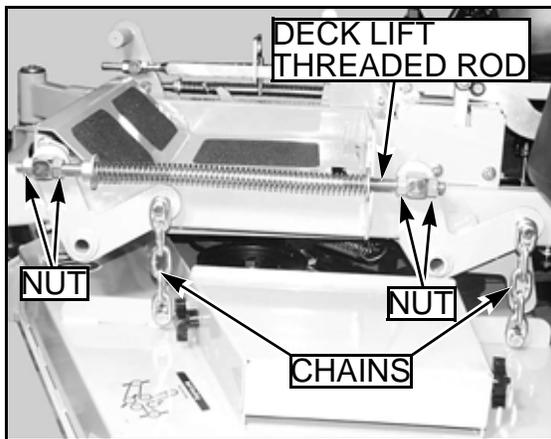
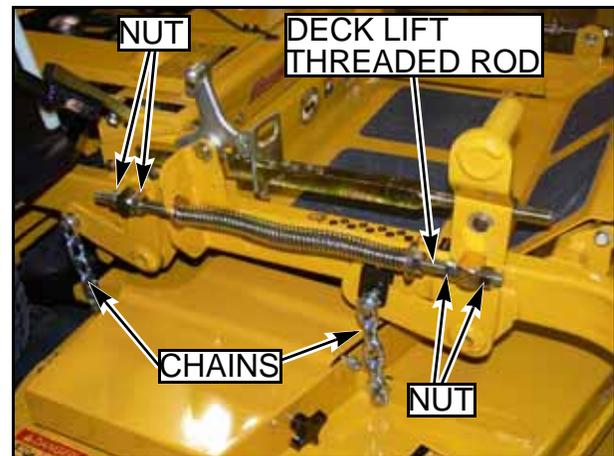
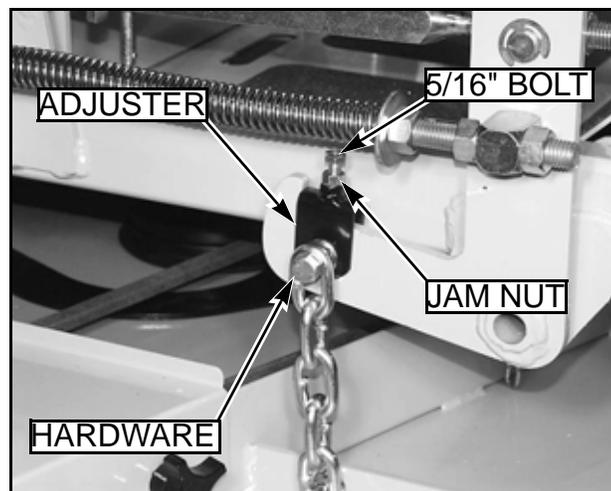

FIG. 33
FIG. 34
FIG. 35
6. Loosen all nuts on the deck lift threaded rods, and the hardware on the adjuster (on the right front), until **all** the deck lift chains are loose, **and** the deck is sitting tightly on all four blocks FIG. 33, FIG. 34, FIG. 35.
14. Loosen the 5/16" jam nut on the adjuster lift chain FIG. 35, and back the adjuster bolt out to allow the adjuster to move up and down freely.
17. Tighten the adjuster bolt jam nut to prevent the adjuster bolt from moving FIG. 35
20. Make sure that there is still slack in the chain. If not, loosen the two nuts on the block holding the threaded rod until there is slack in the deck lift chain FIG. 34.
24. Make sure that there is still slack in the chain. If not, loosen the two nuts on the block holding the threaded rod until there is slack in the deck lift chain FIG. 33.